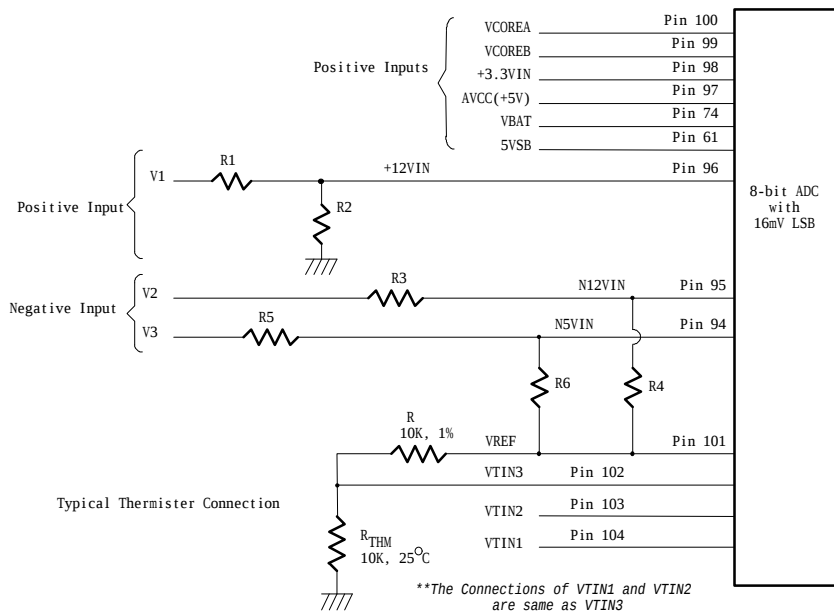

Figure. 9.2
The maximum input voltage of the analog pin is 4.096V because the 8-bit ADC has a 16mv LSB. Really, the application of the PC monitoring would most often be connected to power suppliers. The CPU V-core voltage ,+3.3V ,battery and 5VSB voltage can directly connected to these analog inputs. The +12V,-12V and -5V voltage inputs should be reduced a factor with external resistors so as to obtain the input range. As Figure 9.2 shows.
The negative voltage should be connected two series resistors and a positive voltage VREF (is equal to 3.6V). In the Figure 9.2, the voltage V2 and V3 are two negative voltage which they are -12V and -5V respectively. The voltage V2 is connected to two serial resistors then is connected to another terminal VREF which is positive voltage. So as that the voltage node N12VIN can be obtain a posedge voltage if the scales of the two serial resirtors are carefully selected. It is recommanded from Winbond that the scale of two serial resistors are R3=232K ohms and R4=56K ohm. The input voltage of node N12VIN can be calculated by following equation.
The W83697HF can connect three thermistors to measure three different envirmnt temperature. The specification of thermistor should be considered to (1) β value is 3435K, (2) resistor value is 10K ohms at 25°C. In the Figure 9.2, the themistor is connected by a serial resistor with 10K Ohms, then connect to VREF (Pin 101).